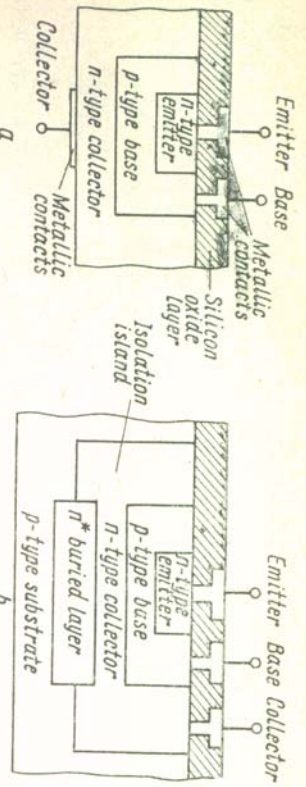

Fig. 4.13. The comparison of the structure of a discrete and integrated transistors:
from 0.32 V to 0.20 V by using this method, the improvement is obtained at the expense of increased transistor area. A preferred solution is to diffuse a heavily doped (low resistivity) n -type silicon layer sandwiched between the p -type substrate and the n -type collector. The resulting structure is shown in Fig. 4.13*b*, from which it may be seen that the collector current can now flow laterally through a low resistance region, resulting in considerable decrease in the collector resistance and $U_{CE(sat)}$.
3. What is shown in Fig. 4.13*a*?
8. What does Fig. 4.13*b* show?